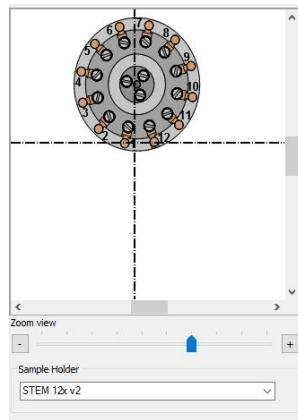

Figure 4.11: Selecting the *STEM 12x v2* holder. Remember to change back to *Carousel 9x9* at the end of your session
5. Select *STEM 12x v2* sample holder from the list in the software as shown in Fig. 4.11